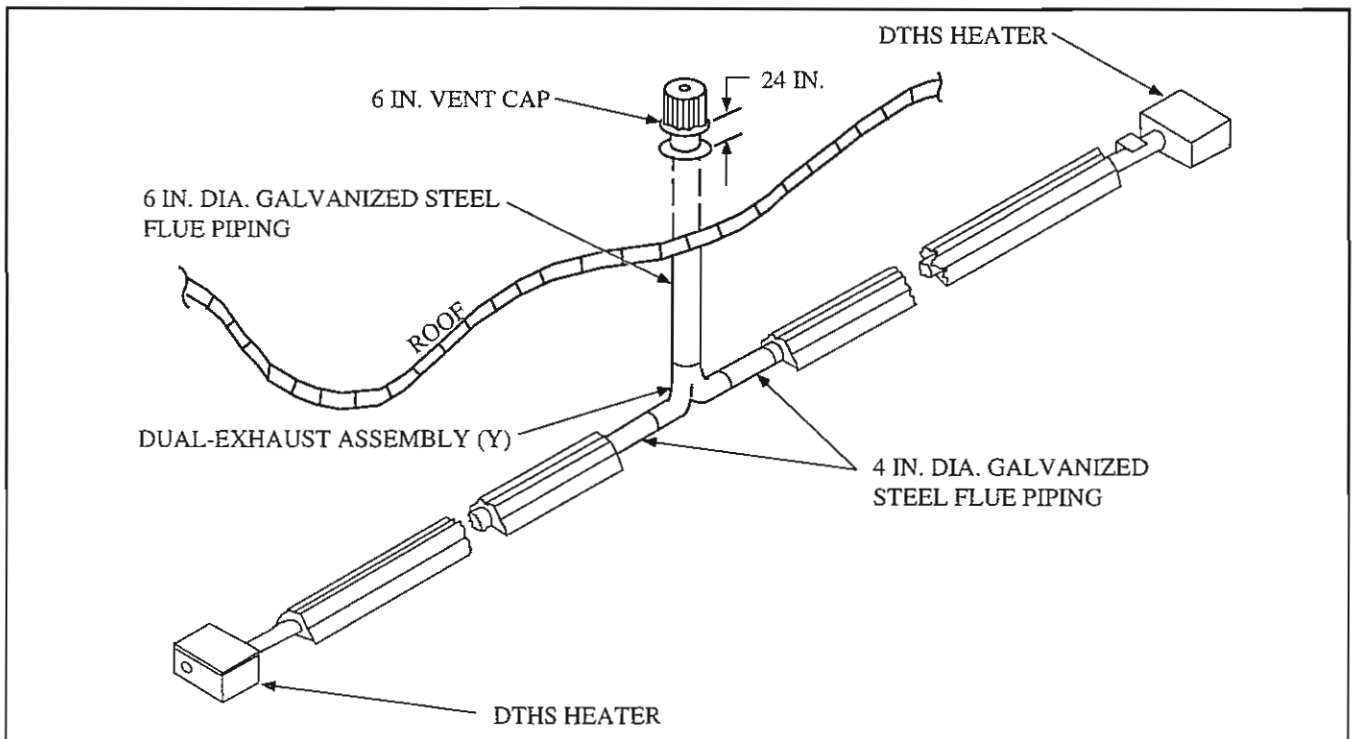

Figure 1-17
- A common flue of 6-in. diameter must be used for double-venting of units. One thermostat must control both units. **When common venting is used, flues should be connected so that the by-products of one heater cannot flow into the adjoining flue of the other heater.** A dual-exhaust assembly is available from Detroit Radiant, Part No. Y or RT (see Figures 1-17 through 1-19).